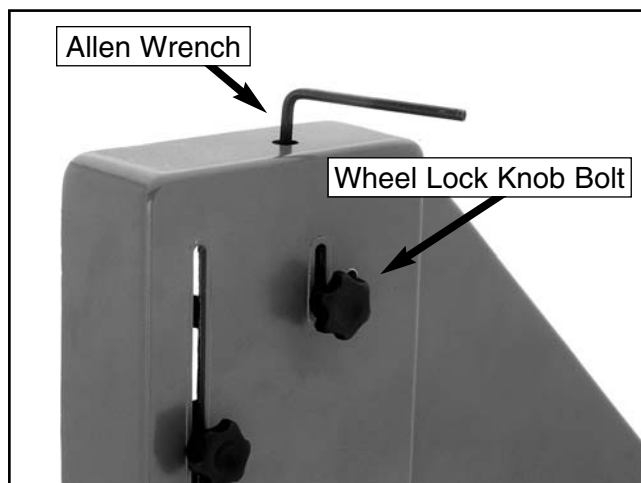

Figure 21. Blade tension components.
3. Loosen the wheel lock knob bolt on the backside of the bandsaw (**Figure 21**).
5. Using a 5mm Allen wrench, release the tension one quarter of a counter-clockwise turn at a time (**Figure 21**). Do this very slowly. When you see the bandsaw blade start to flutter between the upper and lower blade guides, stop releasing the tension.